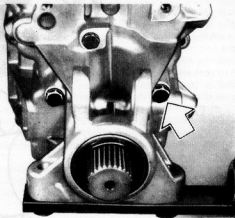

Fig. 13.98 Support plate mounting bolts – arrowed bolt is 65 mm long (Sec 11)
- 30 Remove the three support plate mounting bolts shown in Fig. 13.98. Note that the bolts are of different lengths and must be refitted in their original locations.